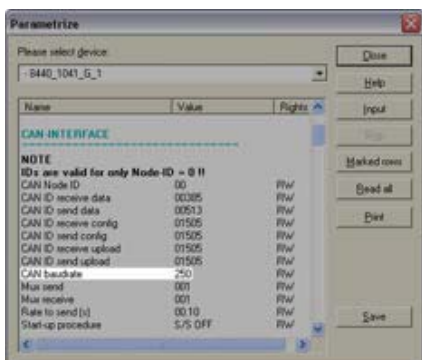

Fig. 211: Baud rate configuration (example LeoPC1)
2. For the first IKD 1 configure the baud rate as shown in (Fig. 211).